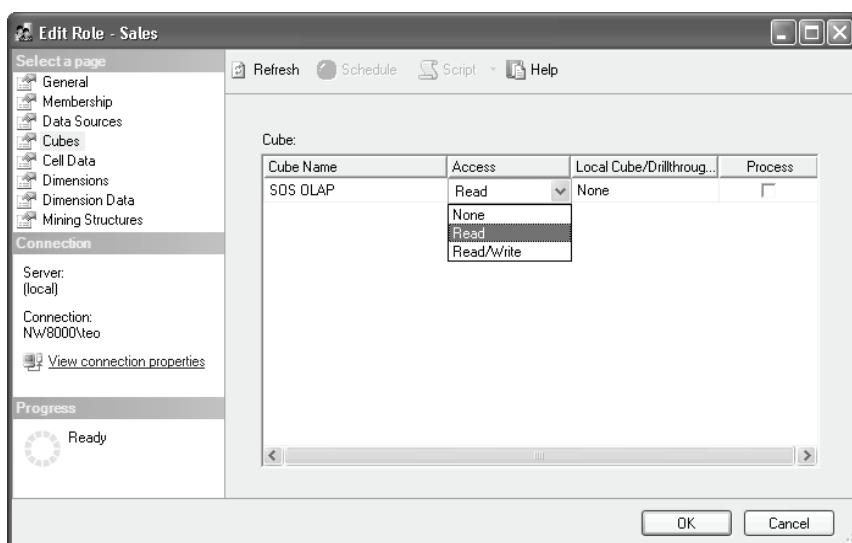

Figure 16.10 Use the Cubes page to grant a role rights to read the cube data.
- In the Edit Role dialog (Figure 16.10), select the Cubes tab and change the Access column from None to *Read*. In case you are curious, the Read/Write setting allows to you perform partition writeback if it is enabled.